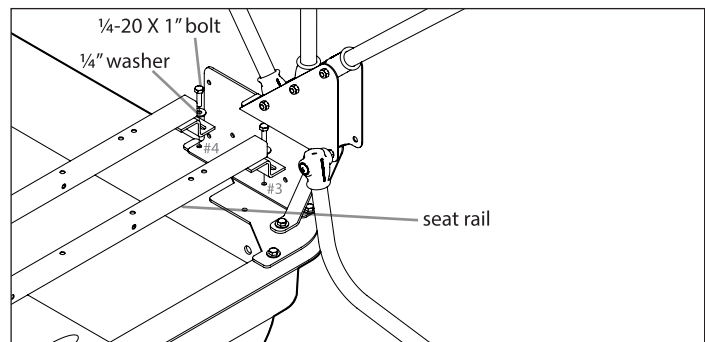

FIGURE 3
6. Attach the seat rail (14818) through holes #3 and #4. As mentioned earlier you will need to remove the bolts in this step to fit the seat rail (14818) to the holes. Replace the hardware and tighten. **SEE FIGURE 3**